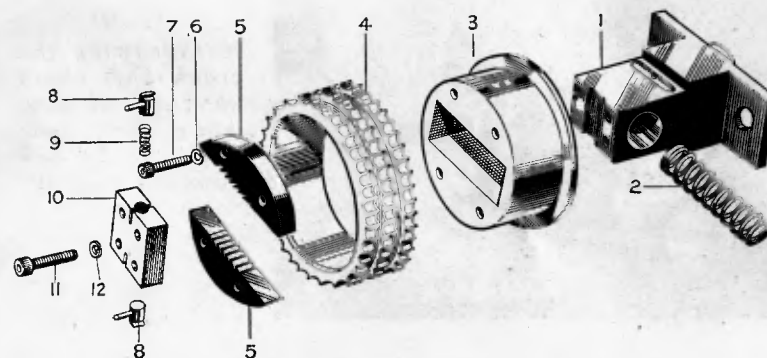

Fig. 59
Reassembly is a reversal of the above procedure, but it is most important that the retaining plates (5) and the pawls (8) are fitted correctly, that is with the teeth of the ratchets facing in the direction shown in Fig. 59, otherwise the restraint mechanism becomes inoperative.